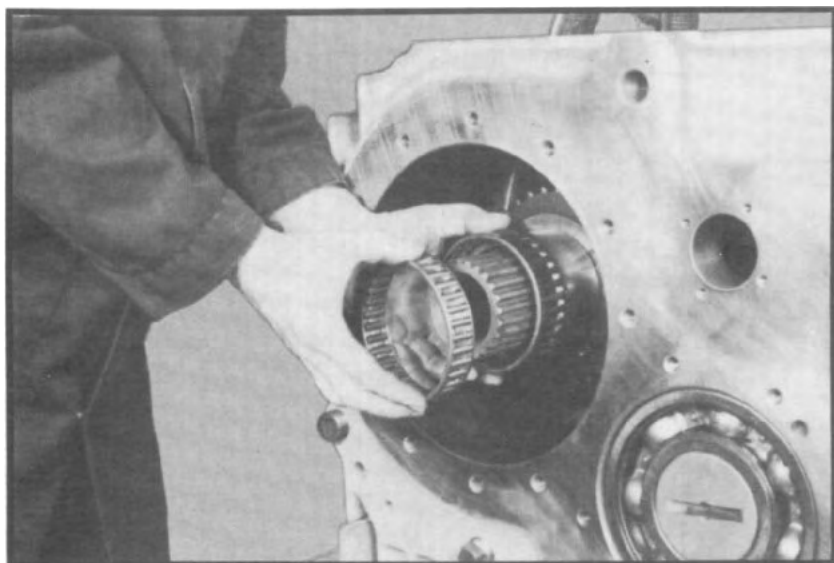

Fig. 118
- 2.9 Slide the two needle bearing assemblies over the rear of the shaft. The wider needle bearing, first and the narrower needle bearing, last. (See fig. 118.)